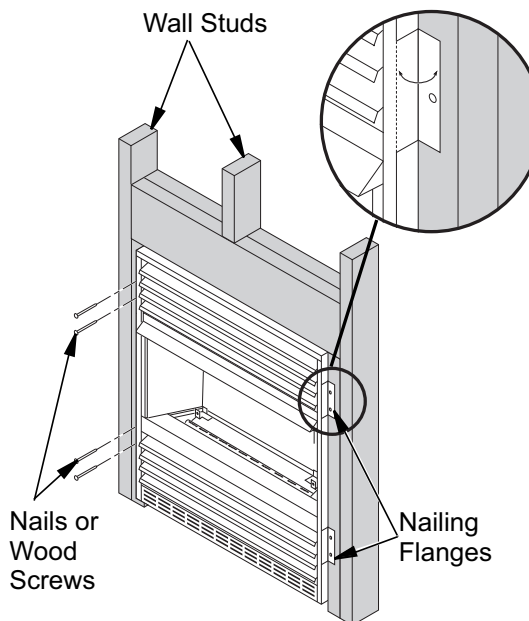

Figure 9 - Attaching Fireplace to Wall Studs
7. Bend four nailing flanges on outer casing with pliers (see **Figure 9**).